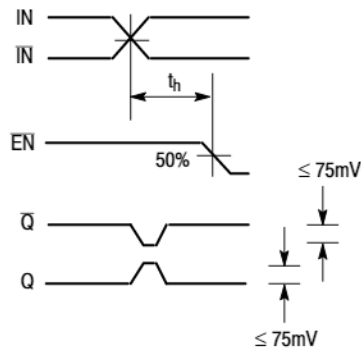

Figure 4. Hold Time
6. The hold time is the minimum time that  $\overline{EN}$  must remain asserted after a negative going IN or a positive going  $\overline{IN}$  to prevent an output response greater than  $\pm 75\text{ mV}$  to that IN/ $\overline{IN}$  transition (Figure 4).
- The hold time is the minimum time that  $\overline{EN}$  must remain asserted after a negative going  $\overline{IN}$  or a positive going  $\overline{IN}$  to prevent an output response greater than  $\pm 75\text{ mV}$  to that  $\overline{IN}/\overline{IN}$  transition (Figure 4).